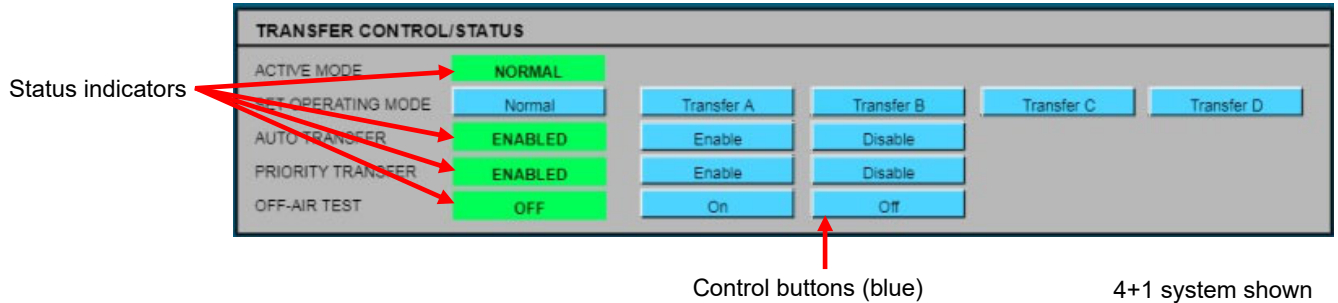
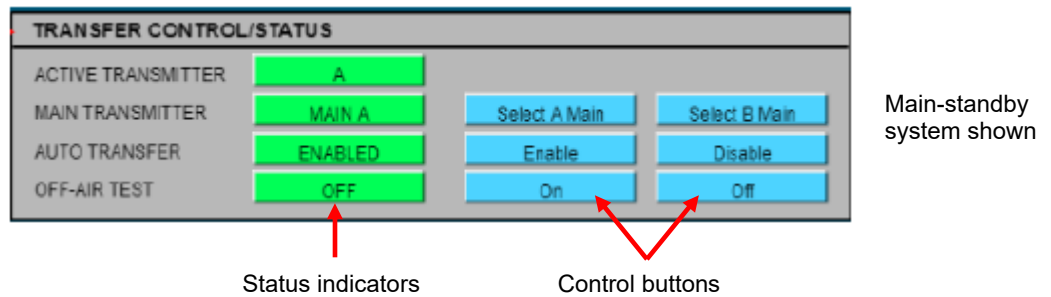

Figure 3-10: Transfer Control/Status Section (N+1 Systems)
Figure 3-11: Transfer Control/Status Section (Main-Standby Systems)
The **TRANSFER CONTROL/STATUS** window (see Figure 3-10 for N+1 systems or Figure 3-11 for main-standby systems) on the Dashboard provides a means to control and monitor the status of the transmitter's system operating mode.
- **SET OPERATING MODE (N+1 systems only):** Control button that, when double-clicked, requests the active operating mode (NORMAL, TRANSFER A, TRANSFER B, etc.). When the transfer is complete, the ACTIVE MODE row will display the operating mode above the control button. **NOTE:** Figure 3-11 shows the control buttons for a 4+1 transmitter system; less buttons are displayed for 3+1 and main-standby systems.